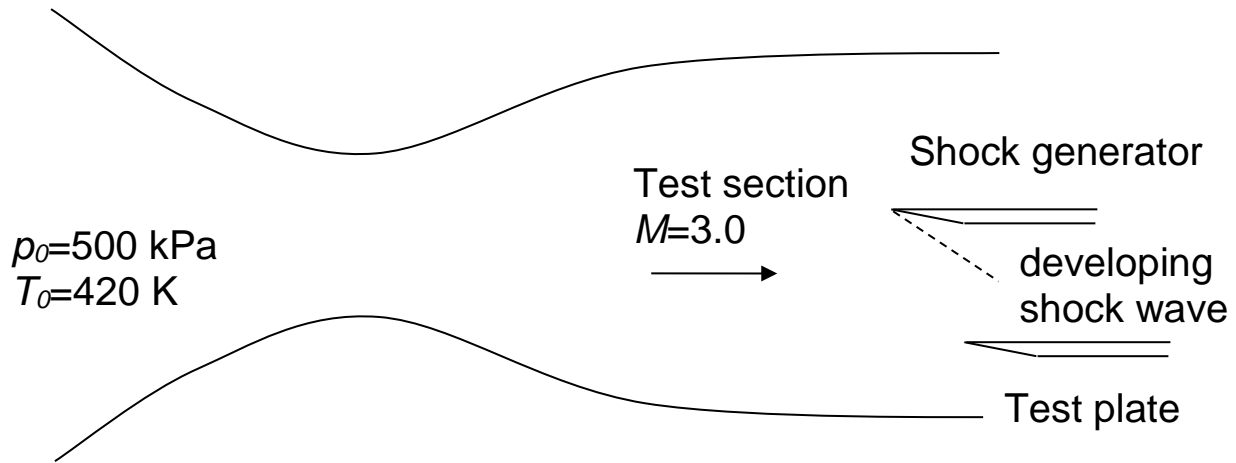

Figure Q.1
Q.1 Figure Q.1 opposite shows a converging-diverging nozzle that generates a uniform Mach 3.0 flow in a test section. A test plate and a shock generator are inserted into the test section, with their upper surfaces aligned with the main flow. The leading edge of the shock generator has an included angle of 13° . The upstream stagnation pressure is $p_0=500$ kPa and the stagnation temperature is $T_0=420$ K.